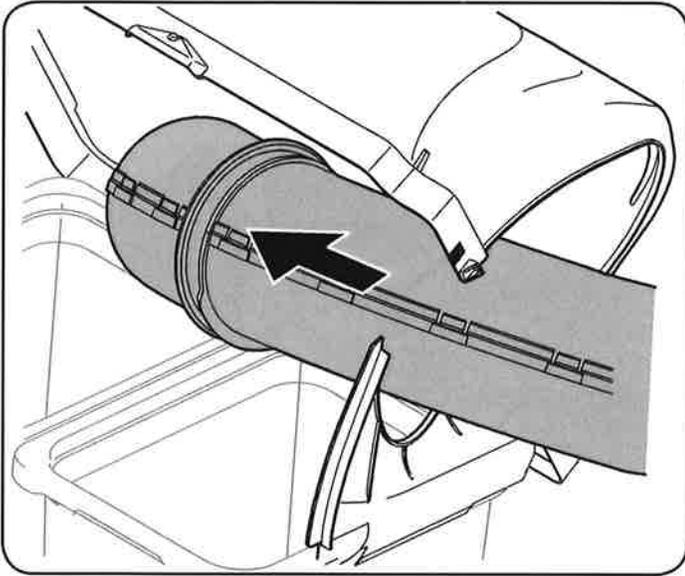

Figure 25
2. With the grass catcher cover open, install the upper discharge chute through the discharge chute opening, as seen in Figure 25.